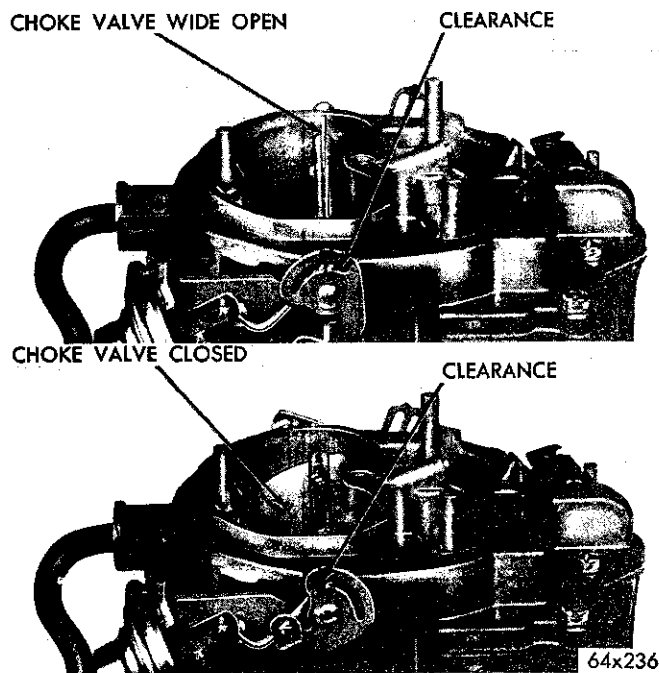

Fig. 20—Choke Operating Link Clearances
(8) With no vacuum applied to the diaphragm, some clearance should exist between the choke operating link and the choke lever slot, in both the open and closed choke valve positions, as shown in Figure 20. This clearance is necessary to allow the choke valve to close for starting as well as fully open after the engine reaches the normal operating temperature.